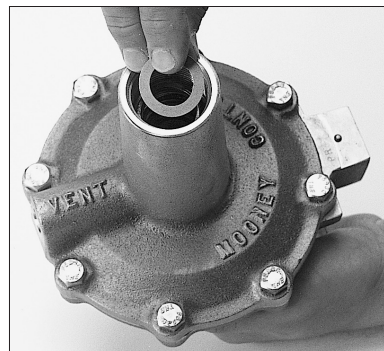

Figure 36
- Place a small amount of petroleum grease such as Lubriplate No. 1051 on the remaining Spring Washer. This will help to hold it in a centered position on top of the main spring. Place the Spring Washer on top of the main spring. The washer prevents the Main Spring from “binding” when the Set Point Spring Adjuster is rotated (refer to Figure 36).